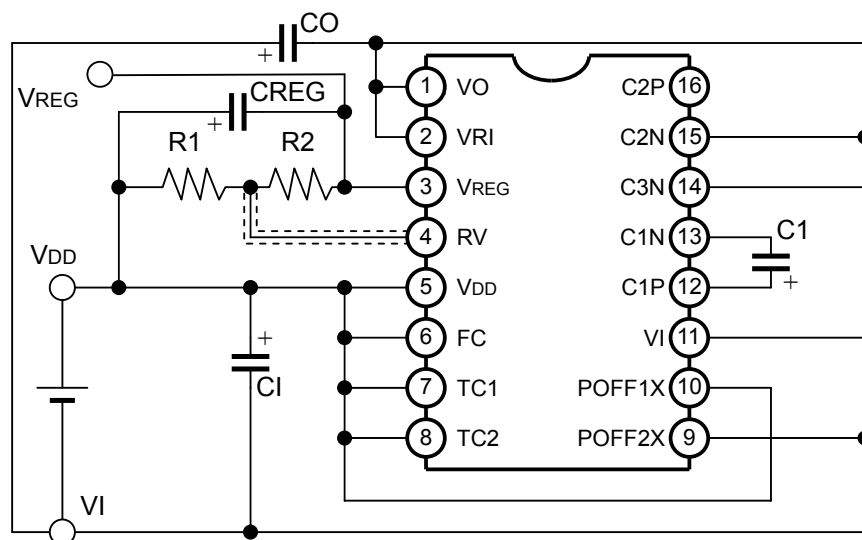

Fig.9.3 Double boosting + regulator connection example
Fig.9.3 shows a connection example.
- ◇ Fig.9.3 Setting conditions